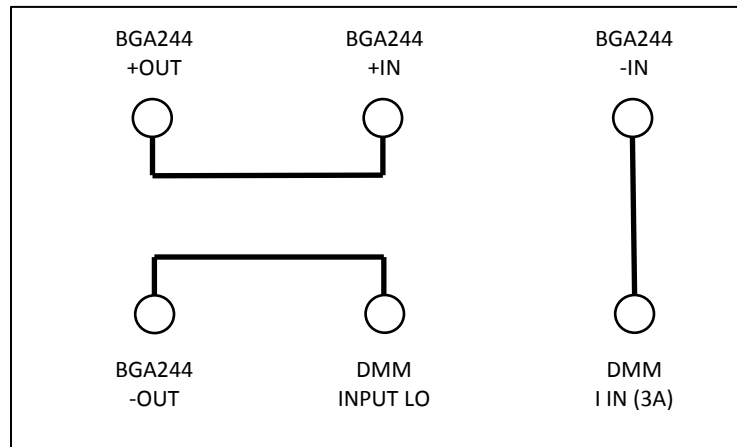

FIGURE 36: SETUP FOR ANALOG I/O CURRENT TEST
6. Connect Analog Output 1, Analog Input 1 and the DMM I input as shown in Figure 36. Set the DMM to measure DC Current at maximum resolution. Select auto range.